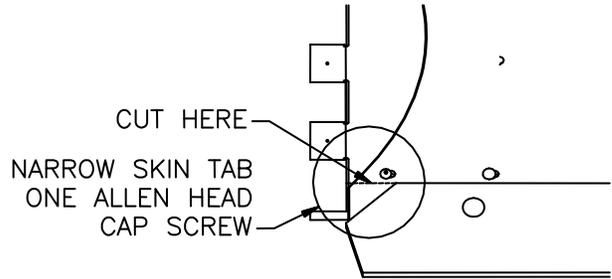

Figure 5. Third style Poly Power-V G10468
6. Third style Poly Power-V blade skins have a narrow tab that is located at the center of the plow. One Allen Socket Head Cap Screw is located above this tab. This Allen Socket Head Cap Screw does not need to be removed for Formed Cutting Edge Installation. See Figure 5. Grind as described in Step 2.